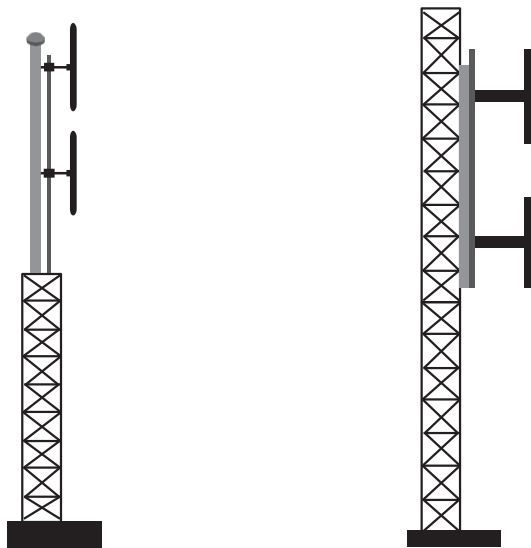

Figure 11.3: (A) Pole-mounted antenna (B) Side-mounted antenna
An antenna can be mounted on the top of the tower or side of a tower section, as illustrated in Figure 11.3.
Figure 11.3 (A) shows the mounting arrangement of an antenna on the top of the tower. In this arrangement, two dipoles are mounted on a pole, which is fixed on the top of the tower. The thickness of the pole is smaller than the size of a cross section of the tower. In this case, the horizontal radiation pattern is nearly omnidirectional. Figure 11.3 (B) shows an antenna mounted on the side of the tower. In this case too, the dipoles are mounted on a pole (called supporting structure) and the pole is clamped to the tower at a suitable distance. Even though the size of the supporting structure section is chosen to be much less as compared to the size of the supporting tower, the radiation pattern gets some directivity (pattern gets elongated due to more signal strength) in a particular direction due to presence of reflecting surface of the tower section. The type of mounting can be decided based upon the conditions existing at the site. Irrespective of the mounting, the most commonly used antenna in CR stations is described below.